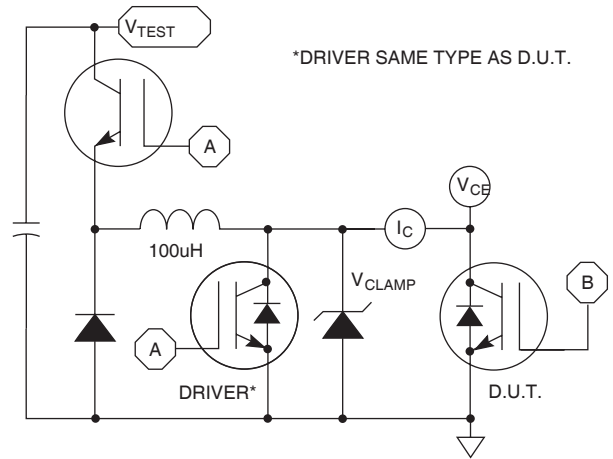

Figure 24, E_{ON1} Test Circuit
① Repetitive Rating: Pulse width limited by maximum junction temperature.
② For Combi devices, I_{ces} includes both IGBT and FRED leakages
③ See MIL-STD-750 Method 3471.
④ E_{on1} is the clamped inductive turn-on-energy of the IGBT only, without the effect of a commutating diode reverse recovery current adding to the IGBT turn-on loss. (See Figure 24.)